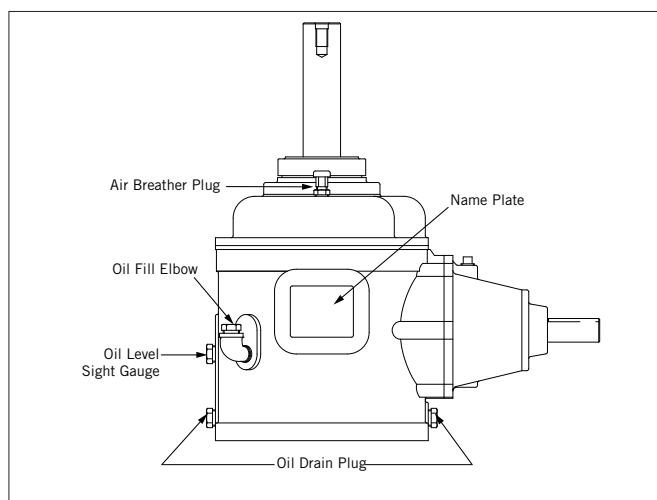

Figure 5. Gear Drive
- Prior to the start-up, check all fittings on the gear drive to ensure that there are no visible leaks. Refer to **Figure 5** for locations of the gear drive fittings.
- Refill the gear drive through the oil fill elbow with the recommended type and amount of lubricant (**Table 4, page 18**). Refer to **Figure 5** for locations of these components.